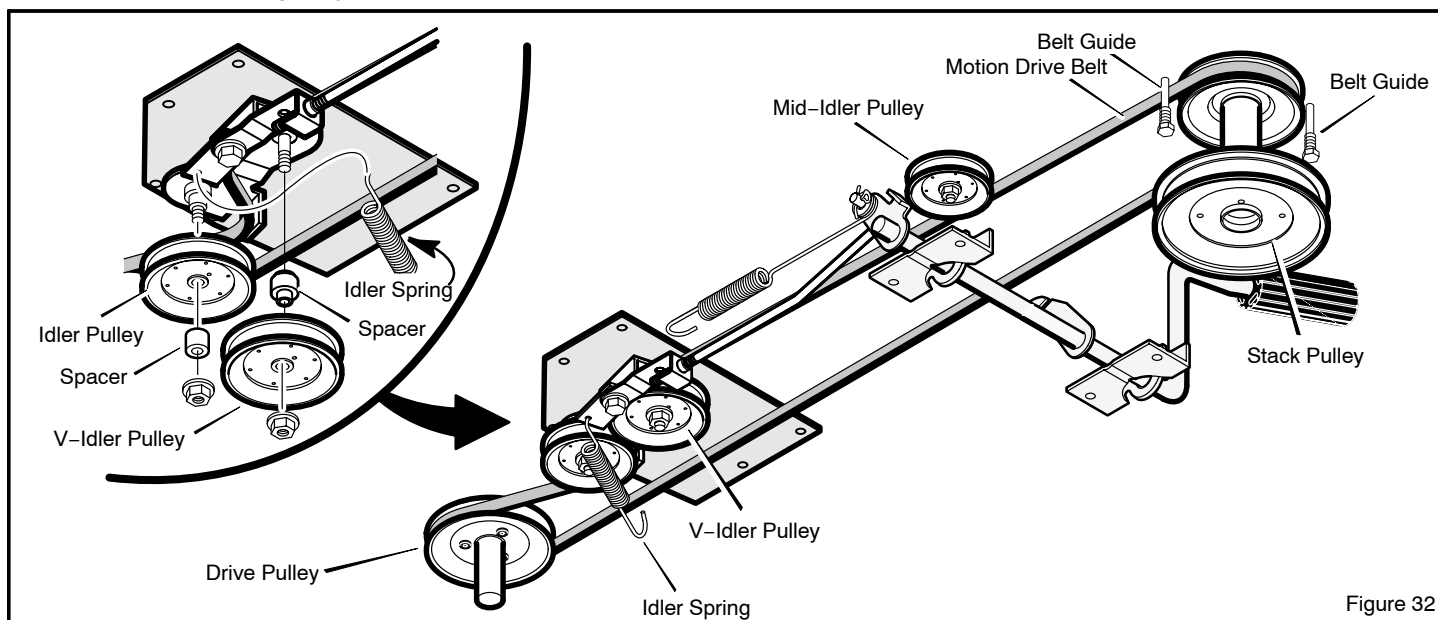

Figure 32
3. Disconnect the **idler spring** (Figure 32).
4. Remove the **idler pulley** and **spacer** (Figure 32).
6. Remove the **motion drive belt** from the **drive pulley** (Figure 32).
3. Install the end of the **motion drive belt** around the **drive pulley** (Figure 32).
6. Connect the **idler spring** (Figure 32).
8. Check the routing of the motion drive belt (Figure 32). Make sure the **motion drive belt** is installed correctly on the **idler pulleys** and inside all **belt guides**.